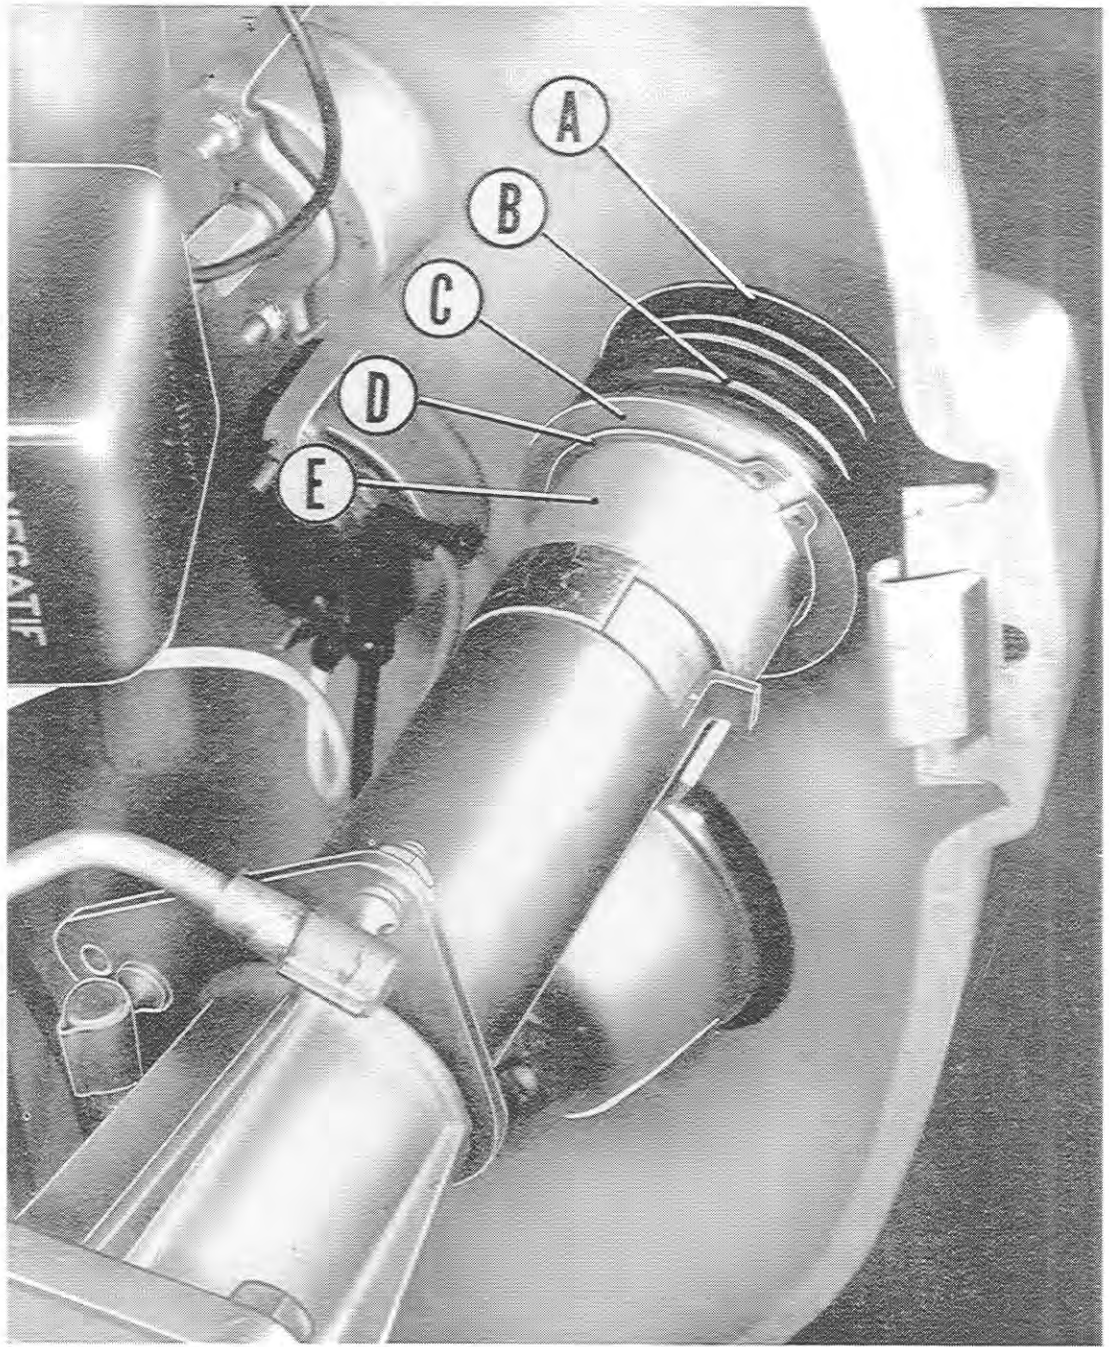

Fig. 6
- 1) Fit around the steering column and fit to the hand throttle control (Fig. 6 - E)
- the circlip (Fig. 6 - D)
- the lower flat washer (Fig. 6 - C)
- the coil spring (Fig. 6 - B)
- the upper flat washer (Fig. 6 - A).